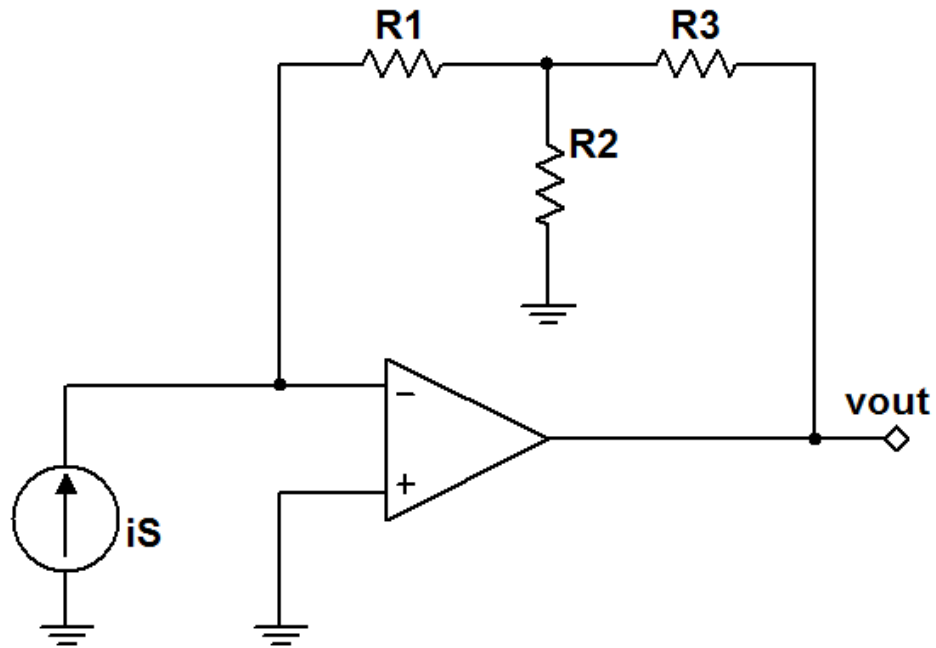

Figure 4.1: Circuit for Problem 4.1
1. Determine a general expression for v_{out} in terms of the resistor values and i_S for the circuit of Figure 4.1 on the next page.
1. Enter the circuit of Figure 4.1 on the following page into NI Multisim. Use the virtual three-terminal op amp model.
1. Build the circuit of Figure 4.1 with the given component values. Implement the current source I_{src1} according to the circuit diagram of Figure B.4 on page 166. Use a $680\ \Omega$ resistor for the adjustment resistor R . When complete, measure and record the source current i_S with the DMM ammeter and confirm that it is close to 1.84 mA.